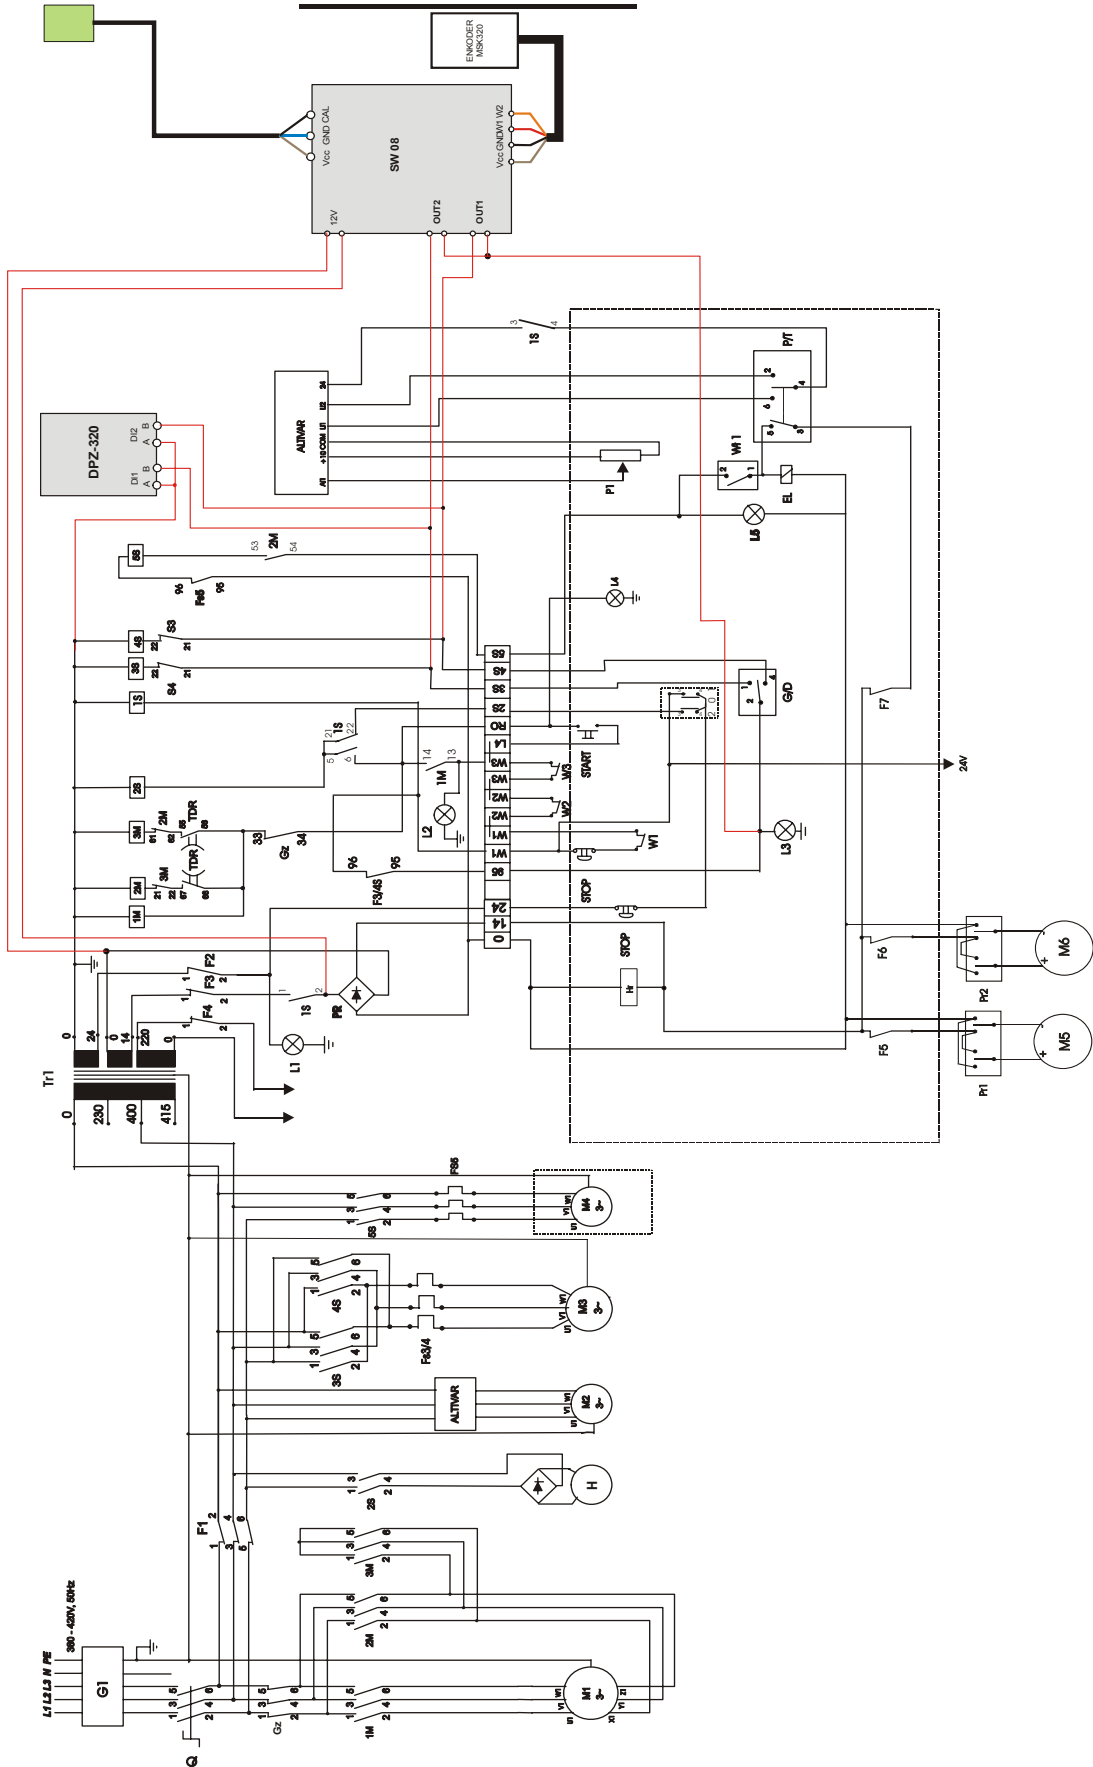

FIG. 5-1 LT40AC + SW08 SYMBOL DIAGRAM.
**Description (See Figure 5-1):**